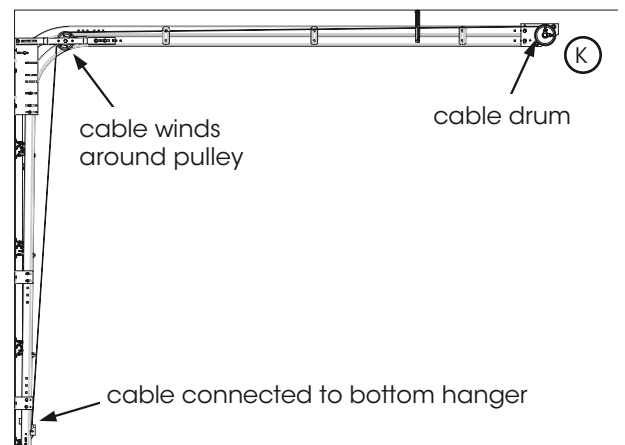
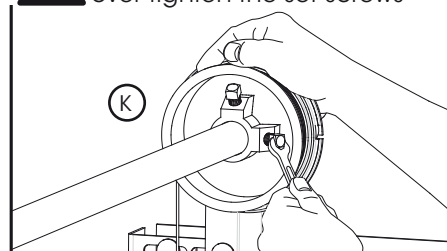

Fig: 5.2.5
Fig: 5.2.6
- l) Thread the lifting cable around the sheave pulley wheel and over to the rear cable drums. Fig 5.2.5.
- m) Attach the lifting cable to the cable drum (K) by slipping the cable into the slot on the outside groove. (the ferrule will prevent the cable from coming out).
- o) Once the cable is taut, slide the cable drum (K) against the side bearing bracket and tighten the screws to the torsion bar. Fig 5.2.6. Refer to section 3.7 for spring tension.